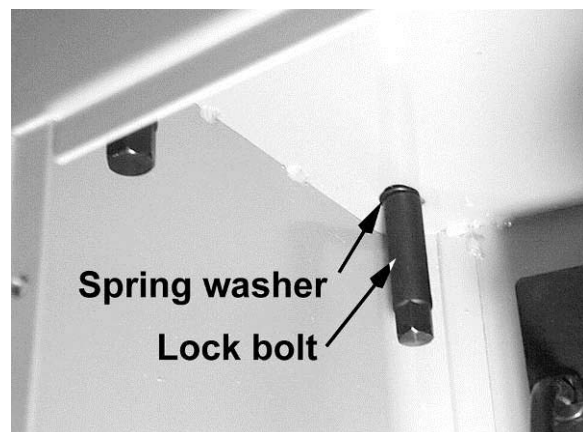

Figure 4
2. Use three lock bolts and spring washers (Figure 3) to firmly fasten the jointer to the stand. The bolts are threaded up through the holes in the stand into the base of the jointer (Figure 4).